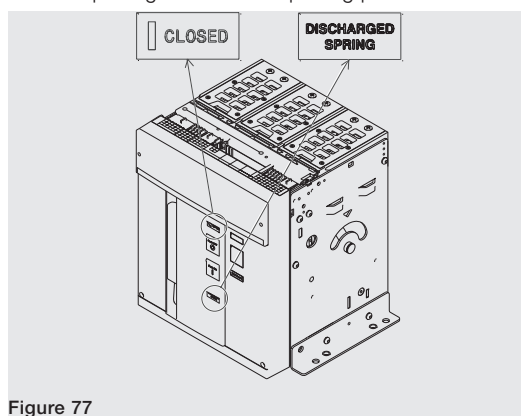

Figure 77
5. Check that the circuit-breaker is closed (open/closed indicator "I - CLOSED"), and check that the springs are discharged (spring signalling device "white - DISCHARGED SPRING") as indicated in Figure 77.